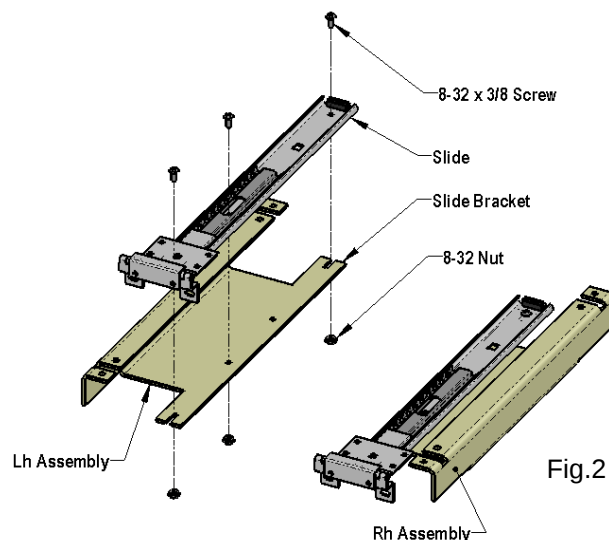

Fig.2
2. Attach the slides to the slide brackets, Fig.2, using the supplied #8-32 x 3/8" screws and nuts. The head of the screw must be installed inside of the slide. Use the two holes at the front of the slide and the one at the rear of the slide. There should be one right hand and one left hand assembly.